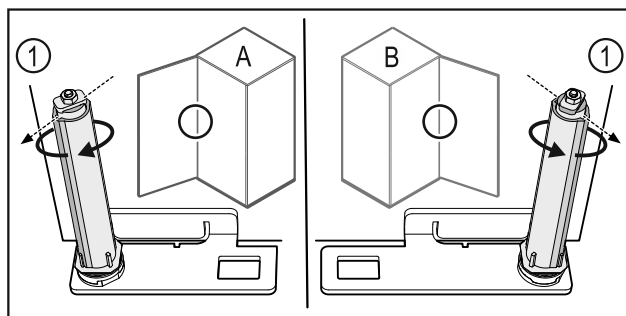

Fig. 60 Left-hinged (A) / Right-hinged (B)
- ▶ Turn the closing system against the resistance until the bar of the closing system Fig. 60 (1) points outwards.